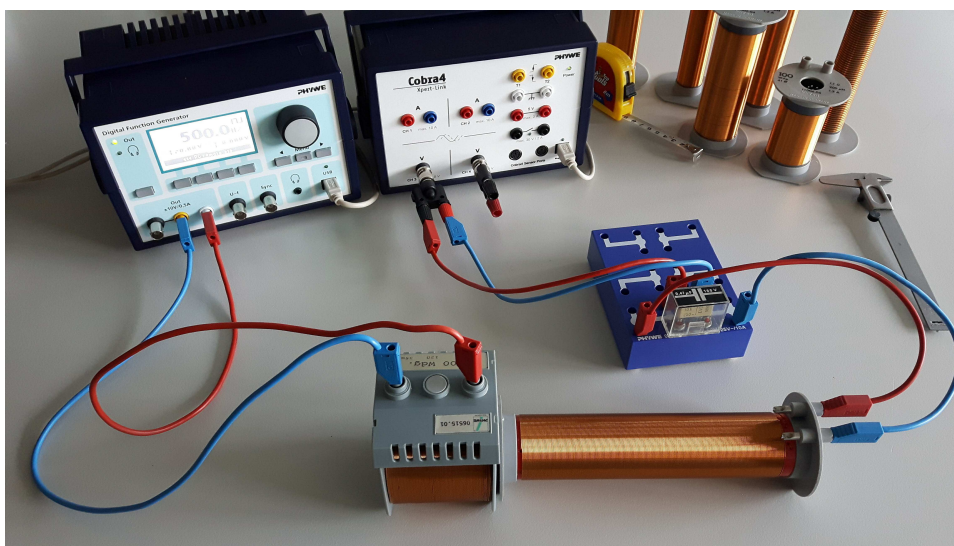

Fig. 1: Experimental setup.
- Build the electrical circuit according to figs. 1 and 2.